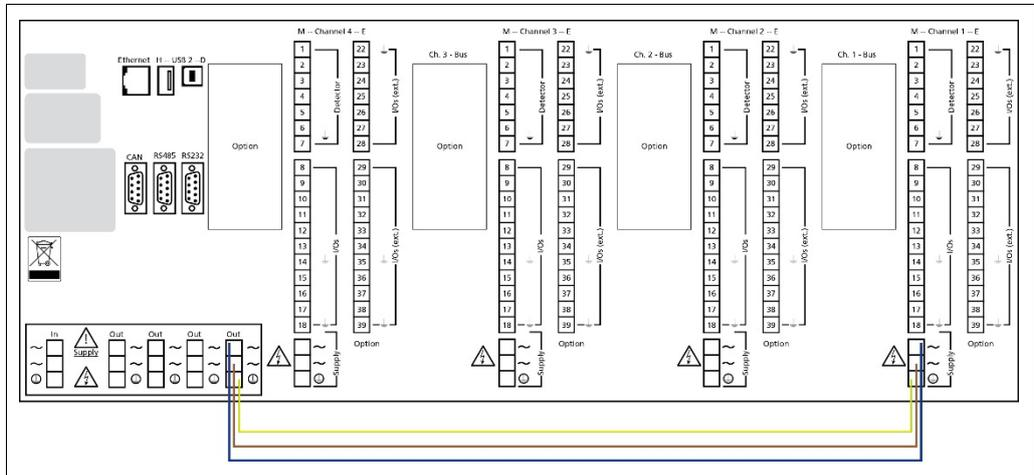
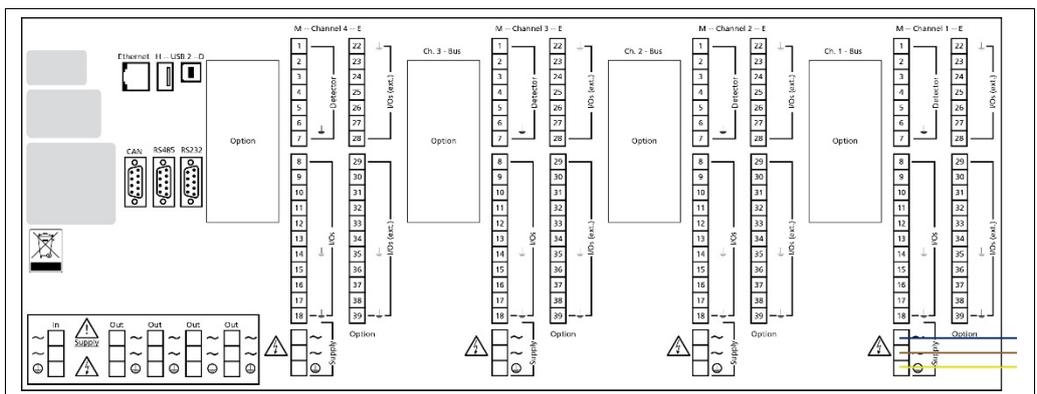

Fig. 6 Internal power supply of the measurement channel via the EVU, measurement channel 1 as example.
Fig. 7 External power supply of the measurement channel, measurement channel 1 as example.
4. Connect the power supply (Out) with the corresponding channel (Fig. 6) or connect the individual measurement channels with an external power supply (recommended) (Fig. 7).